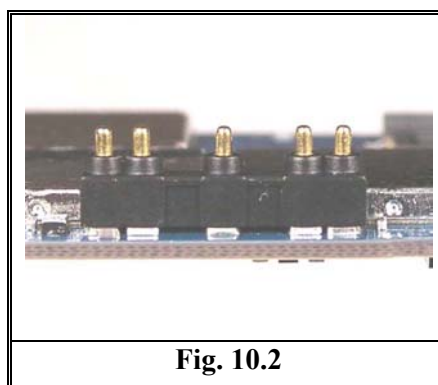

Fig. 10.2
- Check if the battery connector (*Fig. 10.2*) is mechanical damaged, dirty or oxidized. Replace it if necessary.